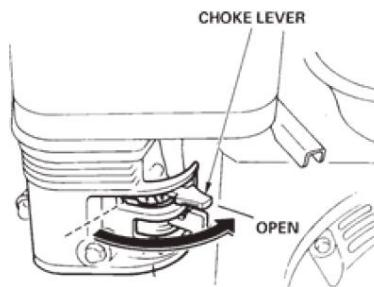

FIG.8
- 9.4 Place the choke lever (FIG. 8) in the "OPEN" position if starting a warm engine or the temperature is warm.